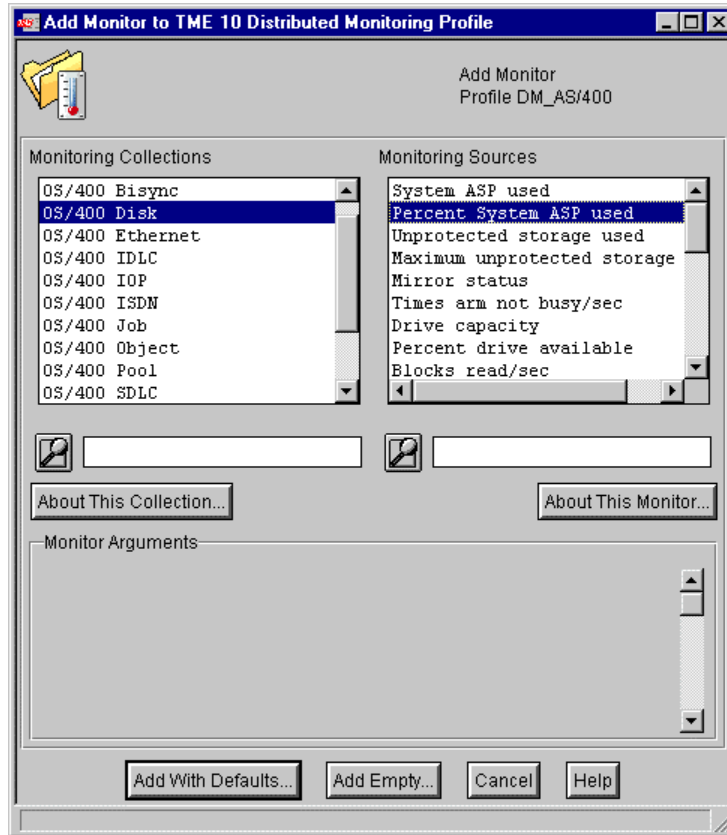

Figure 301. Select the OS/400 Disk monitor
2. In the Profile Properties screen, select the **Add Monitor...** button. Select **OS/400 Disk** from the Monitoring Collection list and **Percent System ASP used** from the Monitoring Sources list as shown in Figure 301.